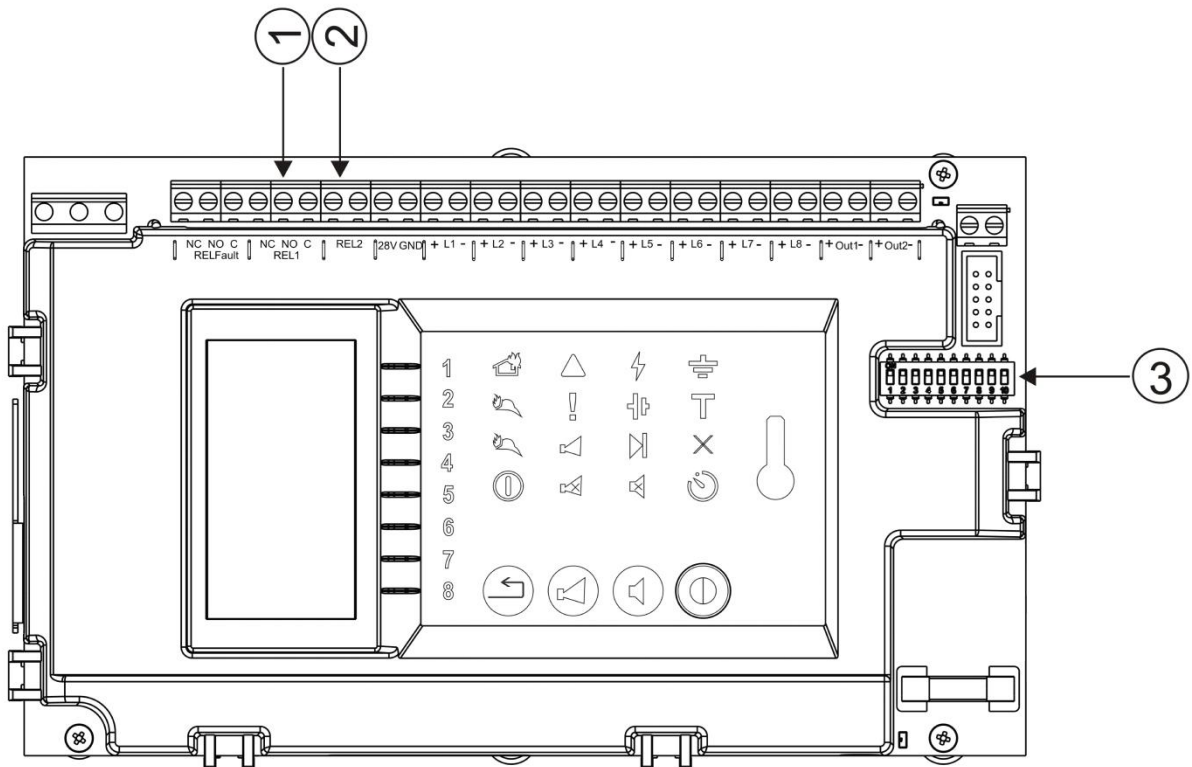

Fig. 1
- setting time delay for activation of the outputs on Access level 3(pos.3, fig. 1);
- skip delay functionality per zone on Access level 3 (pos.3, fig. 1);
- switching on/off communication interface RS485 on Access level 3 (pos.3, fig .1);
- configuring of outputs with 8 steady set user combinations on Access level 3 (pos.3, fig .1)
- disabling “Earth FAULT” on Access level 3 (pos.3, fig. 1);
- disabling “Check Rem. Det. on Access level 3 (pos.3, fig. 1).